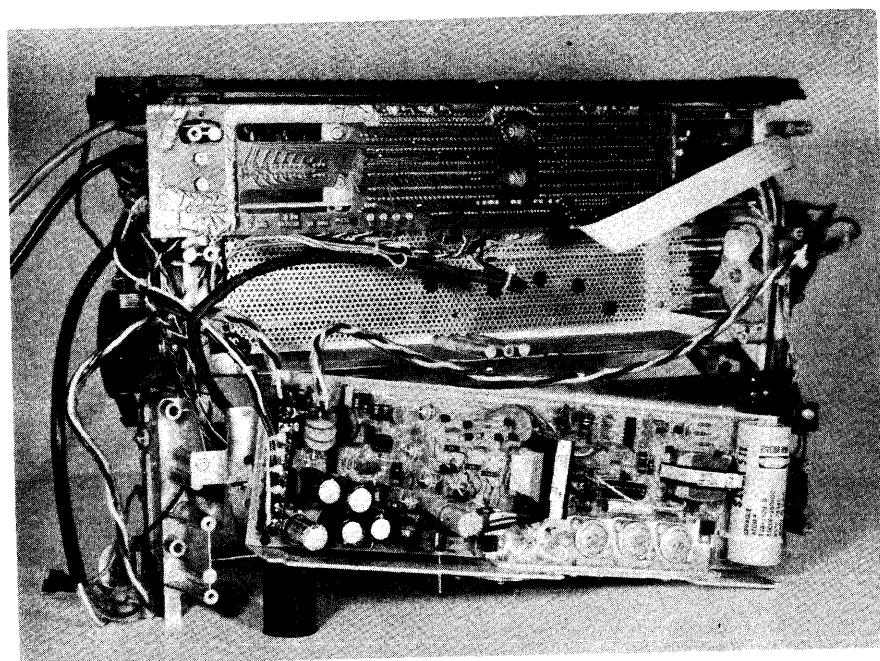
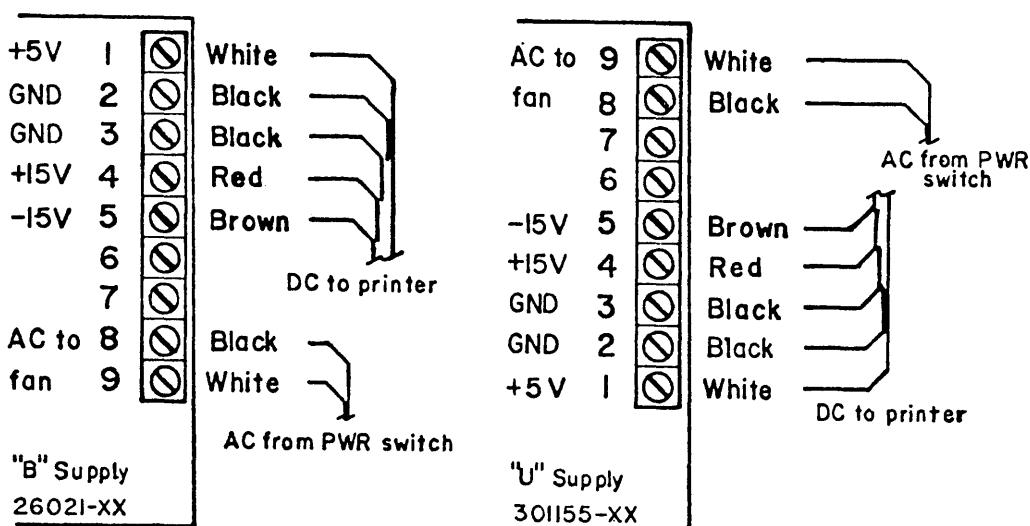

Figure 5-44 POWER SUPPLY REMOVAL/INSTALLATION
Figure 5-45 TBL WIRING DIAGRAM
8. Carefully work the power supply assembly out the bottom of the printer, and place it alongside the printer as shown in Figure 5-44.
1. Position power supply alongside printer, with TBL at left end as shown in Figure 5-44. Connect the DC power cable, AC power cable and fan motor power cable to terminal block TBL according to the wiring diagram in Figure 5-45.
2. Place the metal screen into position at the top of the power supply compartment in the main frame, and align its screw holes with the holes in the main frame. (See Figure 5-44.)